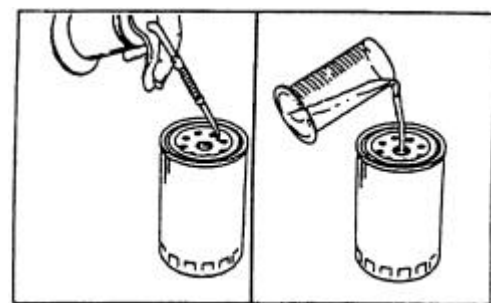

Fig. 5.42. Preparing Filters For Installation
5. Fill the new filters with clean diesel fuel. Then apply a thin coat of clean engine oil to the seal of the filter. See Fig. 5.42.